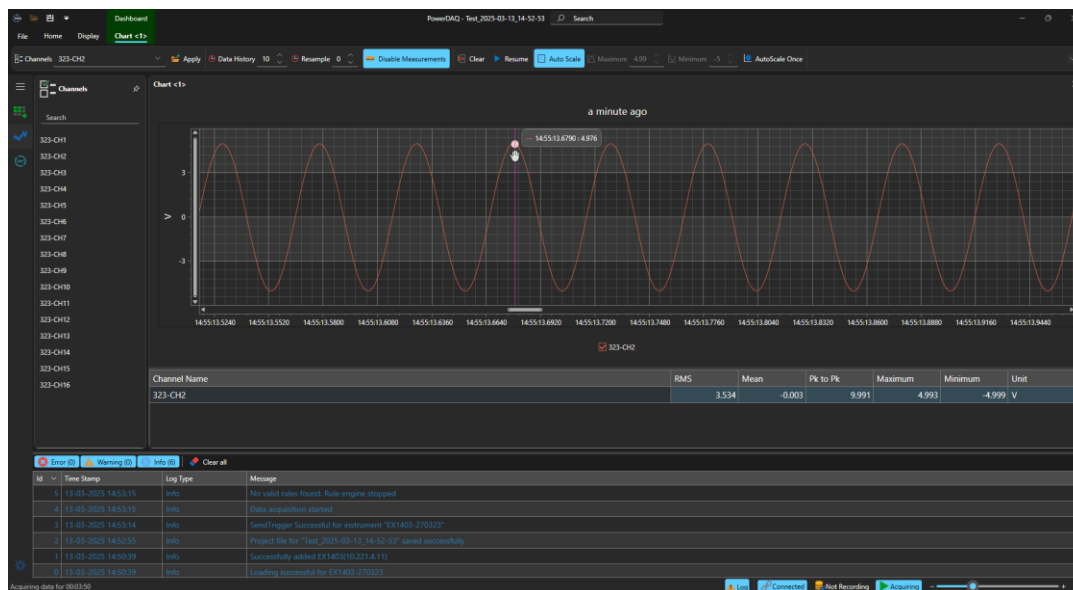

Figure 29. Zoom in on Data
9. Zoom in on the graph using the keyboard shift key and select a rectangular area with the mouse. Refer to Figure 29.